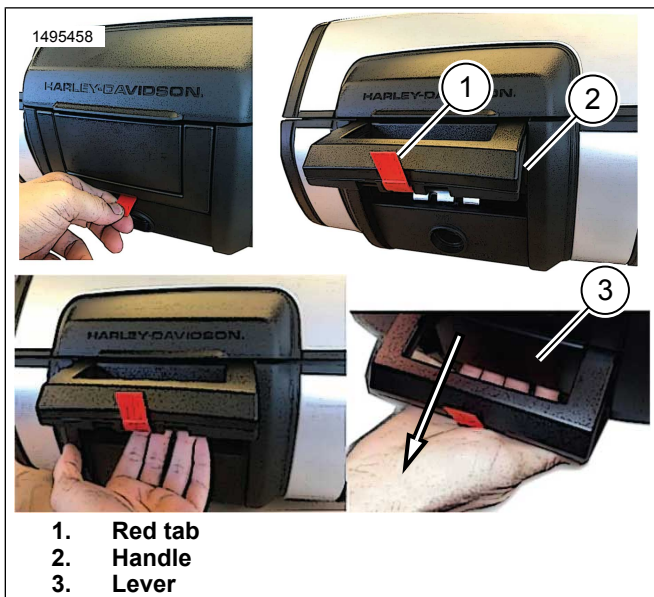
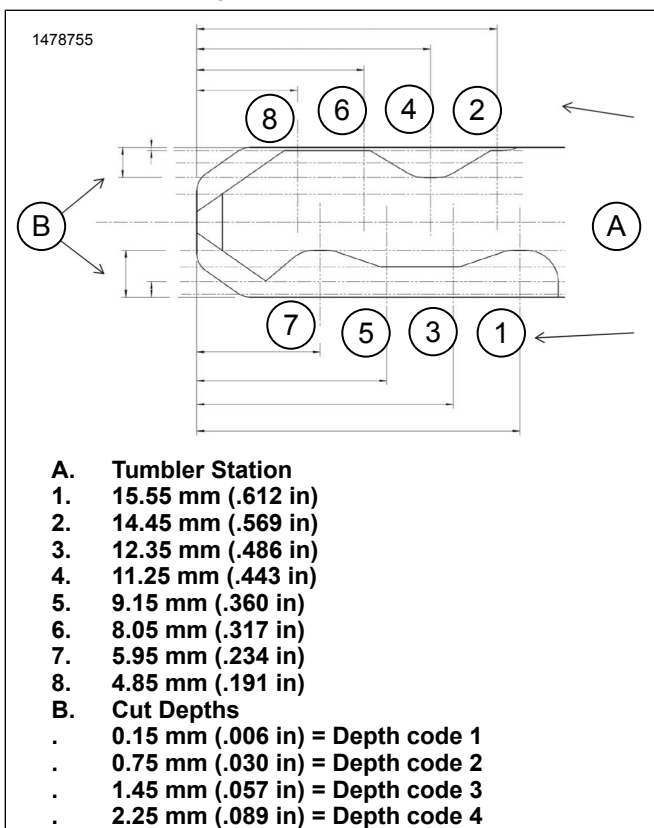

Figure 2. Open Top Case
Figure 3. Key Code Diagram
1. See Figure 2. Open top case and locate lockset.
- a. Pull on red tab (1) to release handle (2).
- b. Pull lever (3) beneath handle to open lid.
2. See Figure 3. On Original Equipment (OE) vehicle key, determine cut depth at each key station.
4. Refer to Table 3. Write key depth codes from Figure 3 based on cut depths measured.